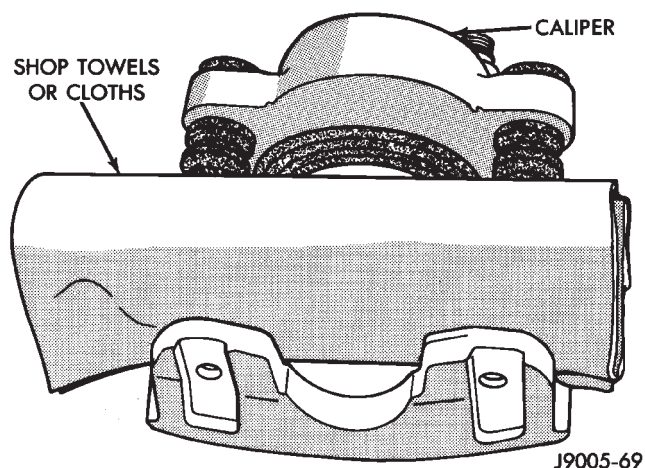

Fig. 12 Padding Caliper Interior To Protect Piston During Removal
- (1) Remove brakeshoes from caliper.
- (2) Pad interior of caliper with minimum, one-inch thickness of shop towels or rags (Fig. 12). Towels are needed to protect caliper piston during removal.